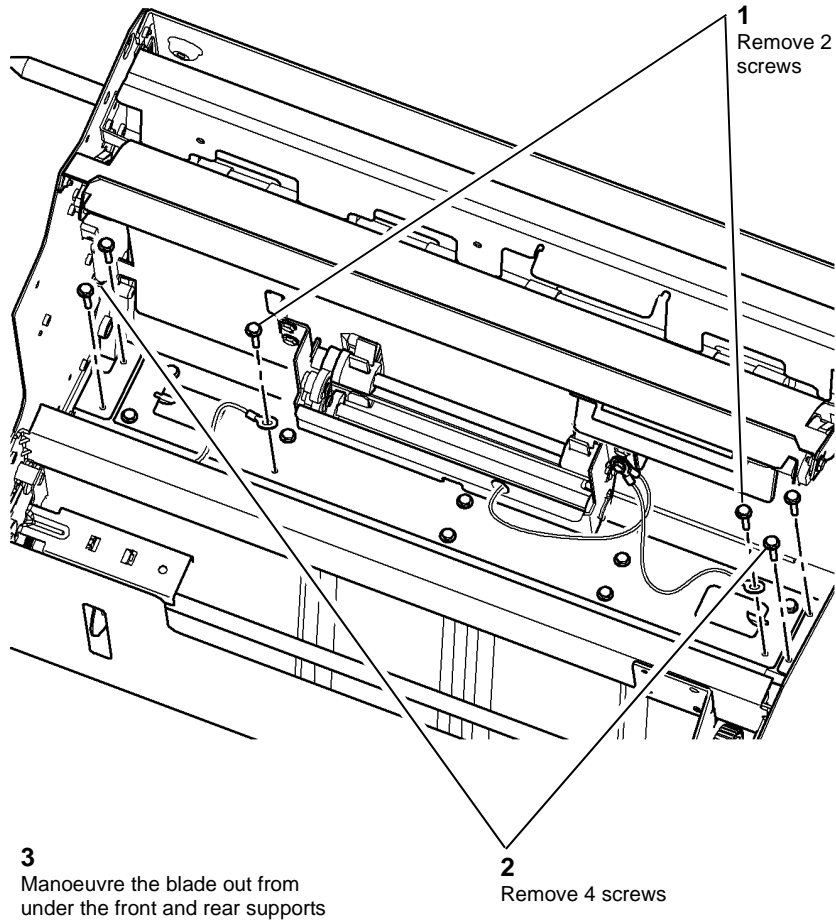

Figure 1 Crease blade removal
5. Figure 1, remove the crease blade.